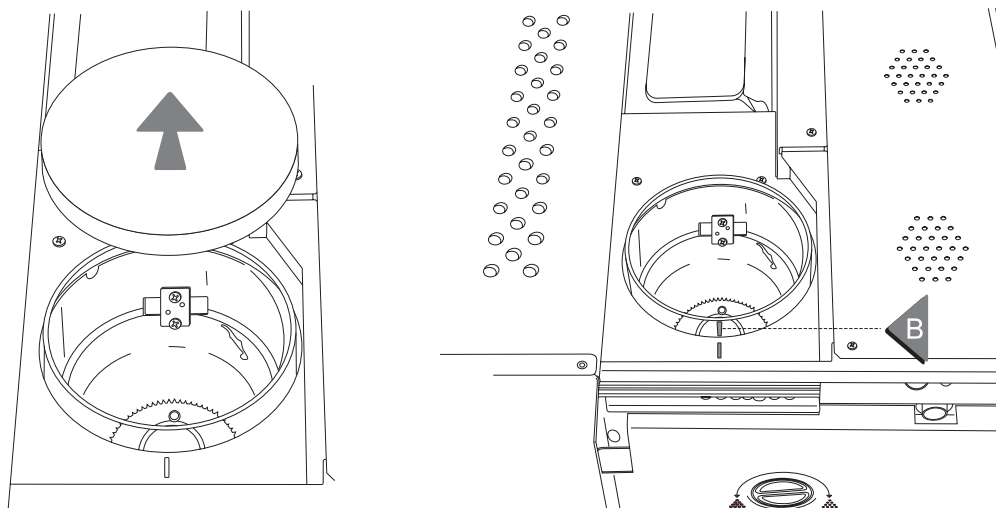

Fig. 6
N.B. To return to the manufacturer's setting, remove the cover and turn the knob until knob **B** (Fig. 6) on the coffee container is in line with the other knob on the side of the container.